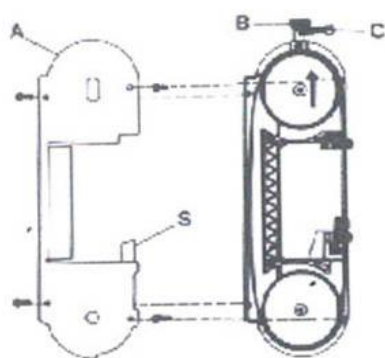

Fig.: 1
1. Adjusting the blade tension (Fig.1)